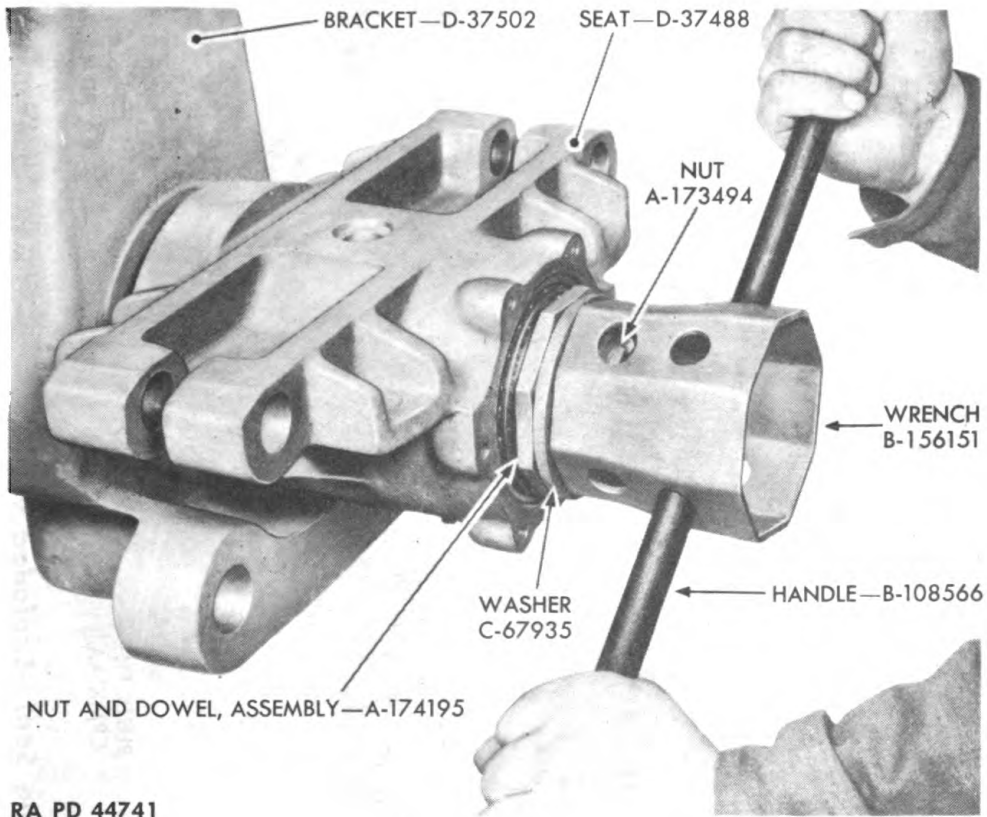

Figure 270—Removing Bogie Crossbeam Jam Nut
(2) Remove nut A173494 with small end of spindle nut wrench B156151 and handle B108566, and lift crossbeam spindle washer C67935 off bogie crossbeam D37481 (fig. 270).
(3) Remove nut and dowel assembly A174195 from bogie crossbeam with large end of spindle nut wrench and handle. Pull cone and roller from taper roller bearing B167070 (outer).
(4) Lift bogie spring seat D37488 assembly off crossbeam torque bracket D37502.